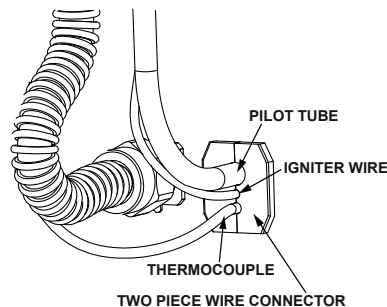

FIGURE 37.
- Position the new pilot tube through the largest opening of the two piece wire connector. NOTE: The largest opening should be located at the top position. The igniter wire should be located in the middle opening and thermocouple in the bottom opening. (Figure 37)